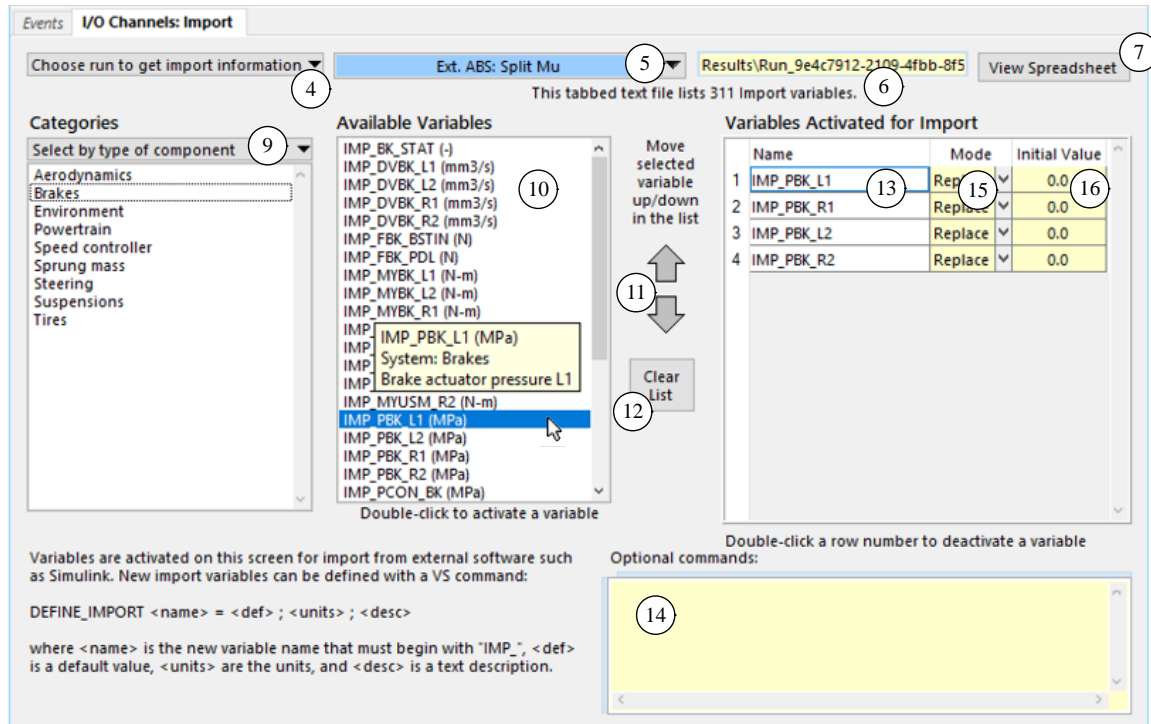
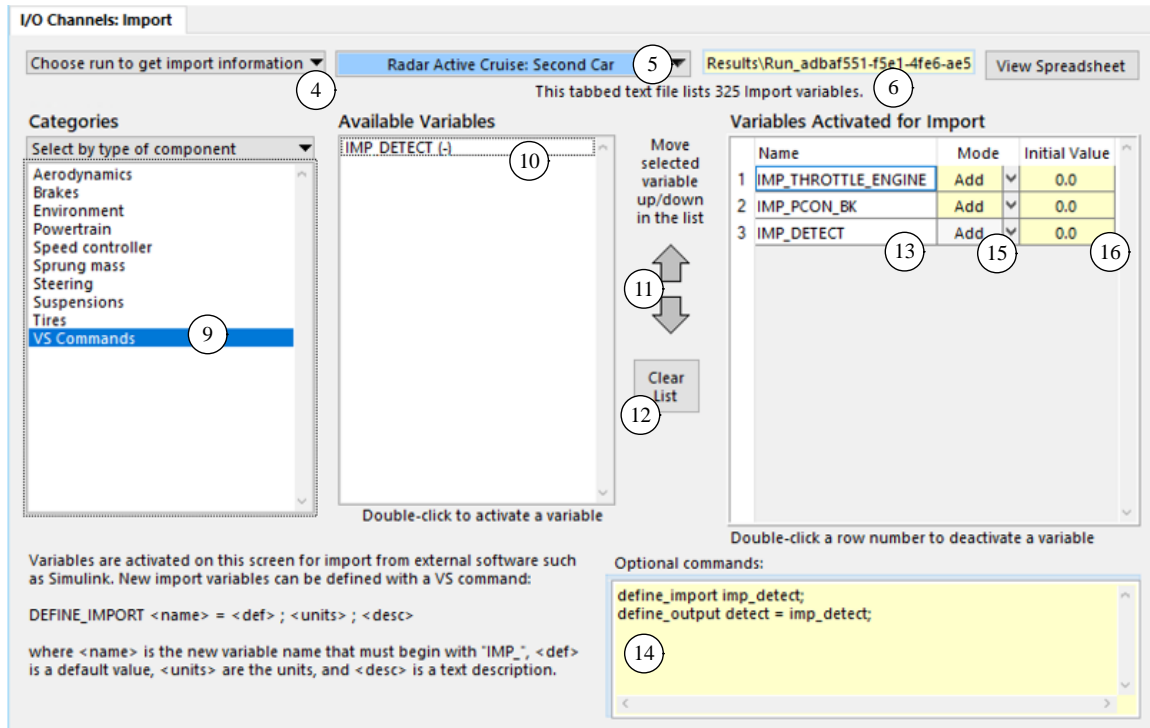

Figure 15. I/O Channels: Import screen.
Figure 18. A user-defined Import variable and an associated output variable.
Use the **I/O Channels: Import** screen (Figure 15) to activate Import variables and specify how they are combined with internal variables in the math model. The typical purpose of a dataset from this library is to set up a *port* with one or more channels (also called signals) that will be provided by an external model from Simulink, LabVIEW, or other external software. Two critical factors in making the connection are:
Not all Import variables support all three modes. The tabbed text and spreadsheet files indicate whether the three modes are supported, or whether there is no internal variable and the Import can only be added. This is indicated in the Import screen by the drop-down controls ¹⁵ (Figure 15); in the spreadsheet it is indicated by whether column E is VARIABLE or 0 (Figure 16). If 0, the mode MULTIPLY would have no effect ($import \times 0 = 0$); in this case the modes ADD and REPLACE have the same effect of using the imported variable ($import + 0 = import$). Thus, variables that have 0 as the internal variable are only shown with the Add option in the drop-down control.
The `DEFINE_IMPORT` commands may be placed in the miscellaneous yellow field (14) (Figure 15, page 15), as noted in the adjacent text on the screen. For example, Figure 18 shows an example dataset in which a new Import variable `imp_detect` is defined and added to the list: **Variables Activated for Import** (13).